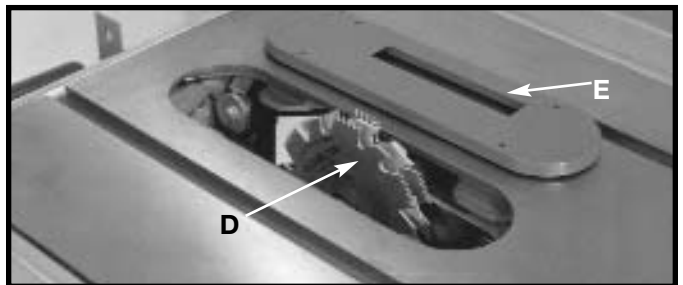

Fig. 47
2. Attach the dado head set (D) Fig. 47, to the saw arbor.
CAUTION THE ACCESSORY DADO HEAD SET TABLE INSERT (E) FIG. 47, MUST BE USED IN PLACE OF THE STANDARD TABLE INSERT.